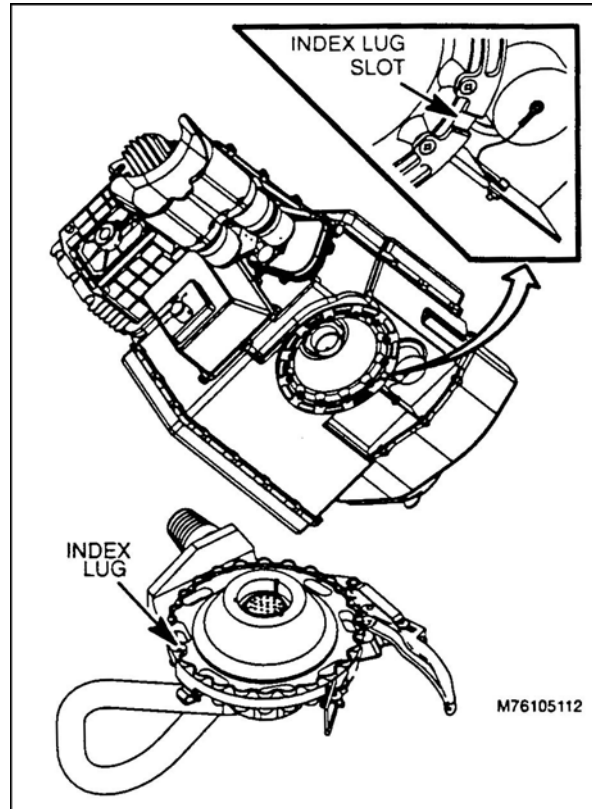

Figure 13. Index lug and lug slot.
- g. Rotate the TAS on the TAS mount until the index lug slot on the bottom of the TAS fits over the index lug on the TAS mount (Figure 13).